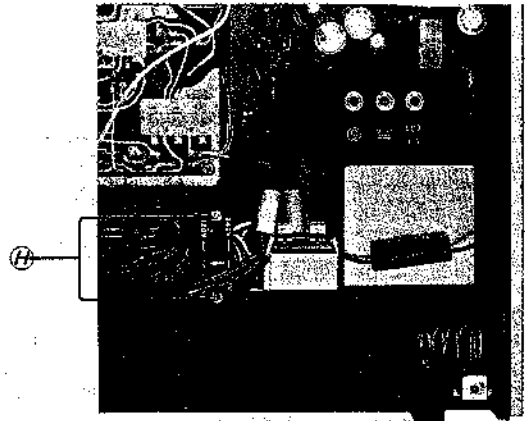

Fig. 2-11 Power circuit board removal, step 5
5. Remove the two screws labeled **(H)** in Fig. 2-11.